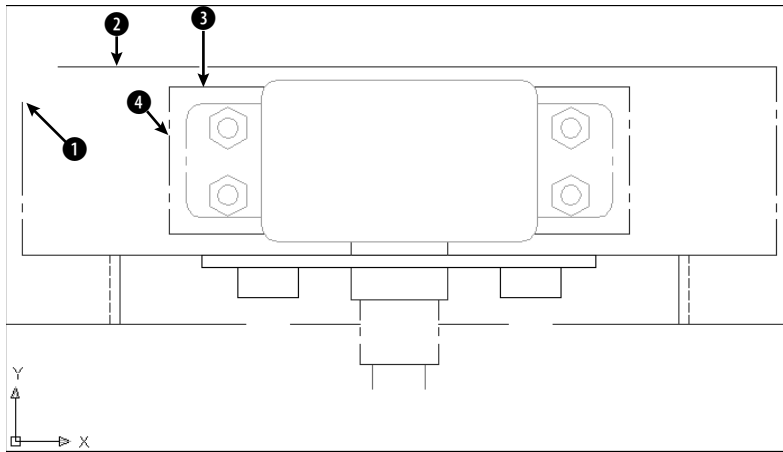
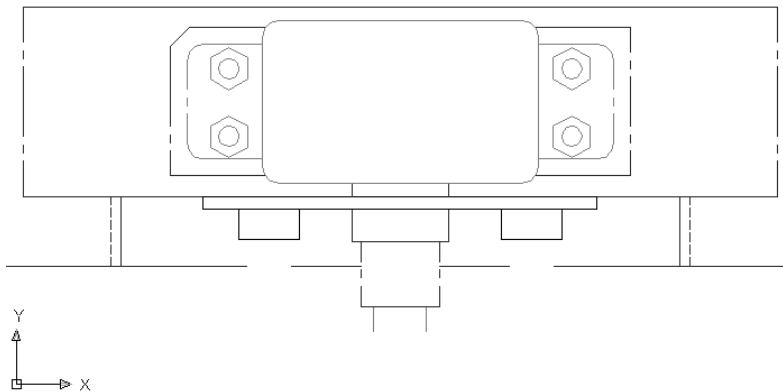

**Figure 10-30:** A mechanical drawing showing a small section of a “porcupine” mixer.
**Figure 10-31:** The edited drawing after using the CHAMFER command.
2. Save the file as `ab10-10.dwg` in your AutoCAD Bible folder. This drawing is a very small section of a "porcupine" mixer, as shown in Figure 10-30.
3.  Choose Chamfer from the Modify toolbar. CHAMFER states the current mode and distances. At the Select first line or [Undo/Polyline/Distance/Angle/Trim/Method/Multiple]: prompt, pick ❶ in Figure 10-30. At the Select second line: prompt, pick ❷. (If the current distances are not zero, press Shift as you pick ❷.) The command chamfers the two lines to make a corner. (If this doesn't work, you may have the Trim option set to No Trim. Change the setting to Trim and try again.)
5. At the **Select first line or [Undo/Polyline/Distance/Angle/Trim/Method/mUltiple]:** prompt, pick **3** in Figure 10-30. At the **Select second line:** prompt, pick **4**. The command chamfers the two lines, as shown in Figure 10-31.